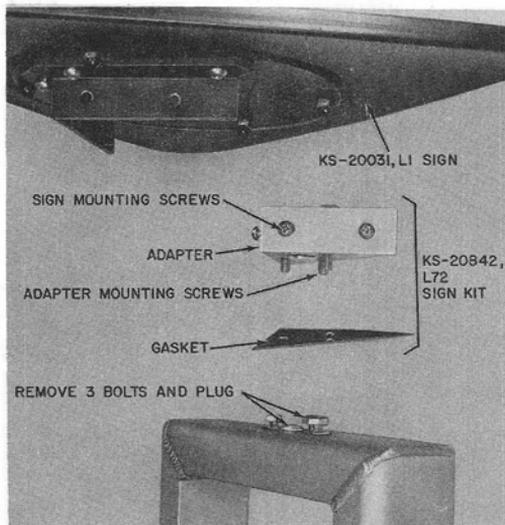

Fig. 43—Installation of KS-20031, List 1 Sign
- (1) Install a KS-20842, List 72 sign kit on top of mast per Fig. 43 and 44.
- (2) Install the sign on the adapter per Fig. 43.